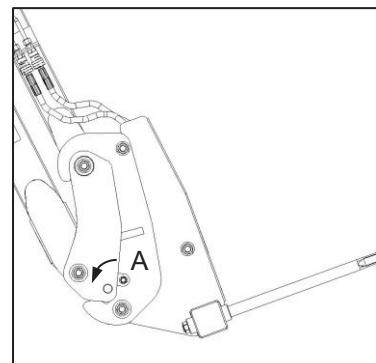

Fig. 7
- ✓ Apply the safety latches (Fig. 7-A).
- ✓ Skuif die veiligheidsknippe weer in posisie (Fig. 7-A).